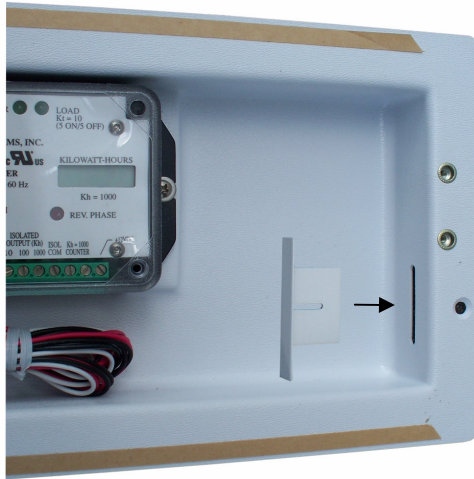

Figure 9: Bracket enclosure installation
3. Place the meter into the hole from step 2. Slide the mounting brackets into the slits on the side of the enclosure (see Figure 9).